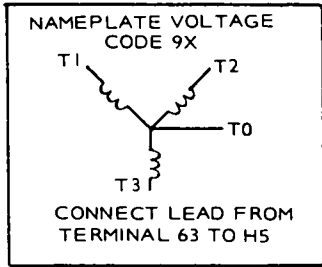
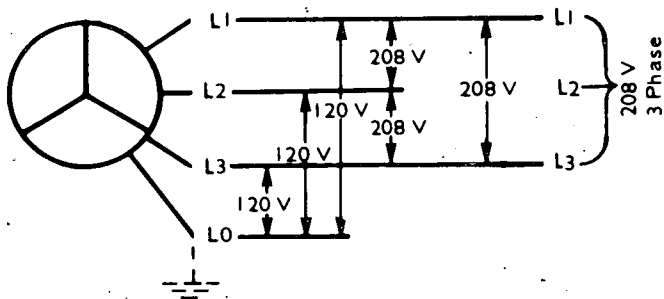

FIGURE 14. VOLTAGE CONNECTIONS
FIGURE 18. 3 PHASE WYE CONNECTION, 12 LEAD
2. Connect wires together as shown on panel and in Figure 14 according to voltage desired.
Figure 18 shows load connections for 120/208 voltage. Other voltages are available from either parallel wye or series wye illustration in Figure 14.